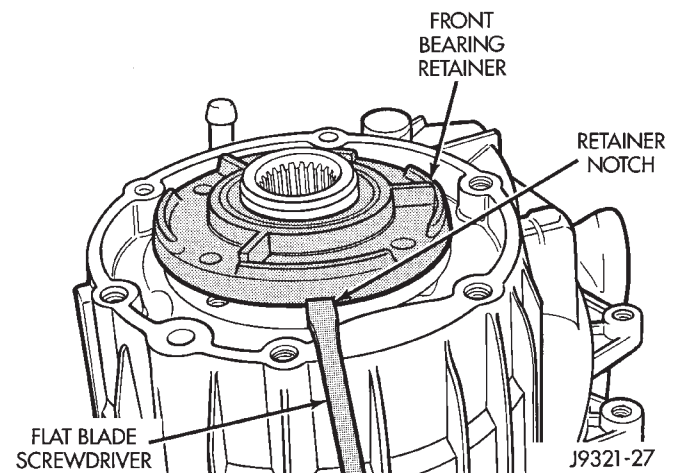

Fig. 27 Removing Front Bearing Retainer
(28) Remove front bearing retainer as follows: Loosen retainer with flat blade screwdriver to break sealer bead. Then remove retainer from case and gear. **To avoid damaging case and retainer, position screwdriver blade only in slots provided in retainer (Fig. 27).**